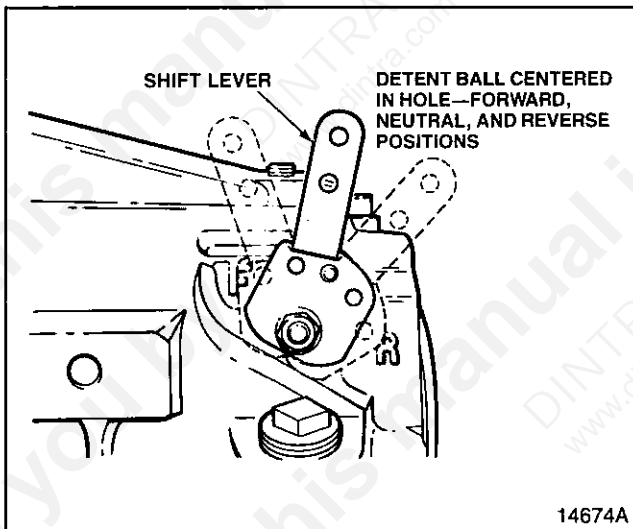

Figure 7. Shift Cable Adjustment
- Adjust shift cable so holes in shift lever are centered over the detent ball at each selector location (See Figure 7).